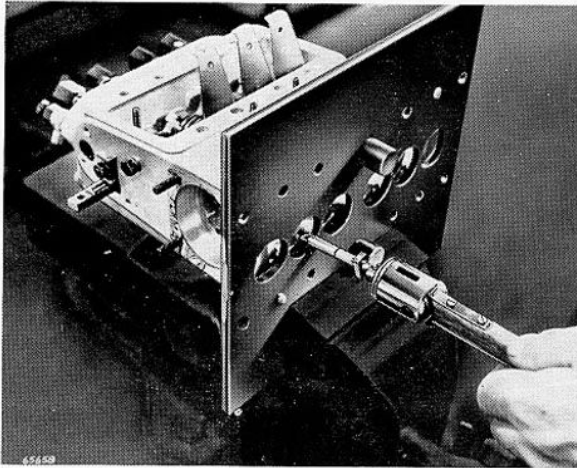

FIG. 13. INSERTING PLUNGER AND TAPPET BLOCK USING FORCEPS 7044/859—TYPICAL ILLUSTRATION
21. Using forceps C.A.V. Part No. 7044/859 hold the tappet assembly in the horizontal position, with the spring locating hole and the lug on the plunger marked with the Part No. uppermost. (See Fig. 13.)